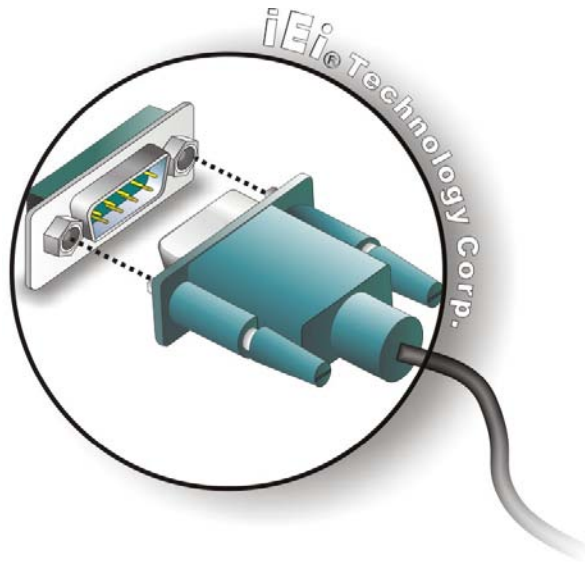

Figure 3-9: DB-9 Serial Port Connector
Step 2: Insert the serial connector. Insert the DB-9 connector of a serial device into the DB-9 connector on the rear panel. See **Figure 3-9**.